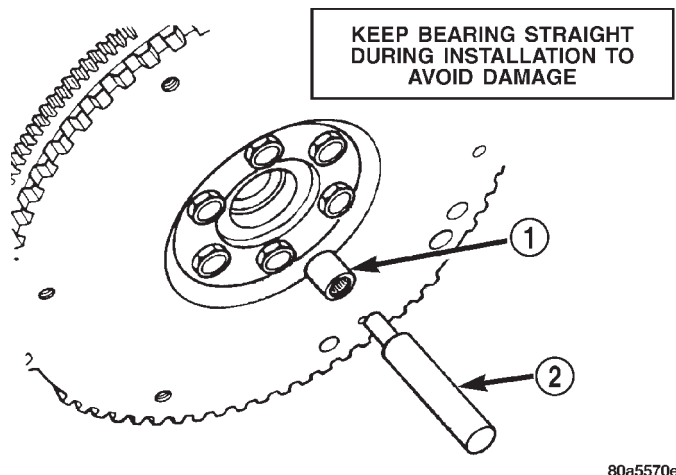

Fig. 5 Pilot Bearing Installer
- (1) Lubricate new bearing with Mopar high temperature bearing grease or equivalent.
- (2) Start new bearing into crankshaft by hand. Then seat bearing with clutch alignment tool (Fig. 5).